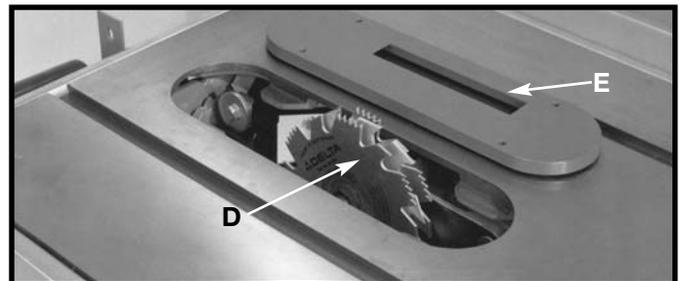

Fig. 74
2. Attach the dado head set (D) Fig. 74, to the saw arbor. **NOTE: THE OUTSIDE ARBOR FLANGE CAN NOT BE USED WITH THE DADO HEAD SET, TIGHTEN THE ARBOR NUT AGAINST THE DADO HEAD SET BODY. DO NOT LOSE THE OUTSIDE ARBOR FLANGE. IT WILL BE NEEDED WHEN REATTACHING A BLADE TO THE ARBOR.**
⚠ CAUTION THE ACCESSORY DADO HEAD SET TABLE INSERT (E) FIG. 74, MUST BE USED IN PLACE OF THE STANDARD TABLE INSERT.